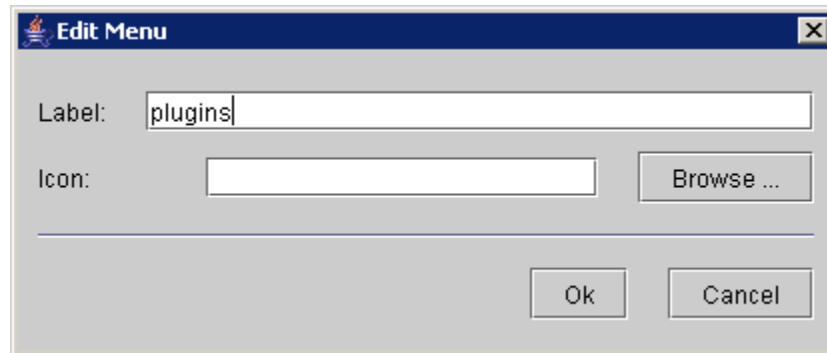

Figure 199 : Edit menu
- ◆ Click on the **Edit Menu** button, the following dialog box then appears (Figure 199):